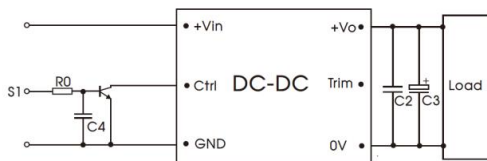

Fig.2
3. The recommended circuit for Ctrl function please refer to Fig.2.